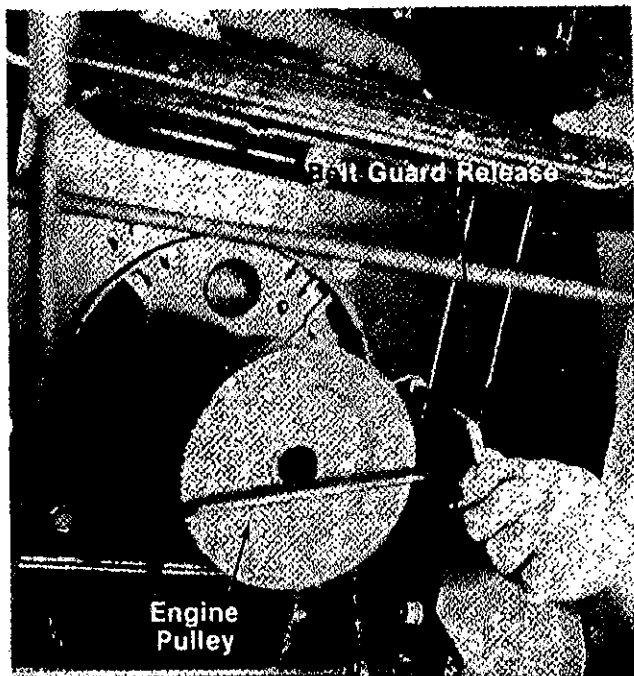

FIGURE 24.
3. Unscrew the belt guard release next to the engine pulley. (See figure 24.)